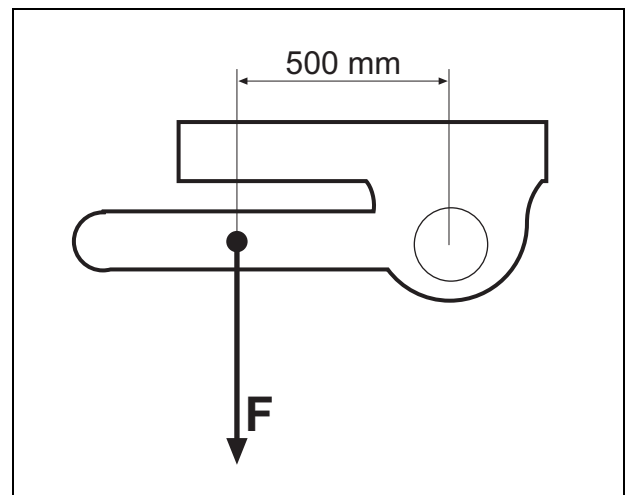

Fig. 13 Adjusting feed out system
To determine the size of the restrictor, the feed out force (F) is measured 500 mm (19.7 inches) from the center of the saw motor. See Fig. 13.